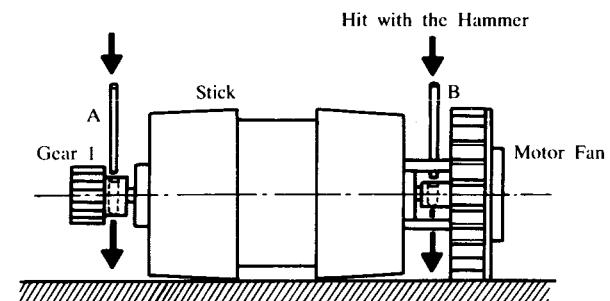

Fig. 21
- (2) Take out the Spring pin (AW 2.5) by using the stick ($\phi = 2.0$ m/m) and the hammer. The Gear 1 will come off. (Refer to A in Fig. 21)
(3) Take out the Spring pin for the Fan in the same way as the step (2). (Refer to B in Fig. 21)